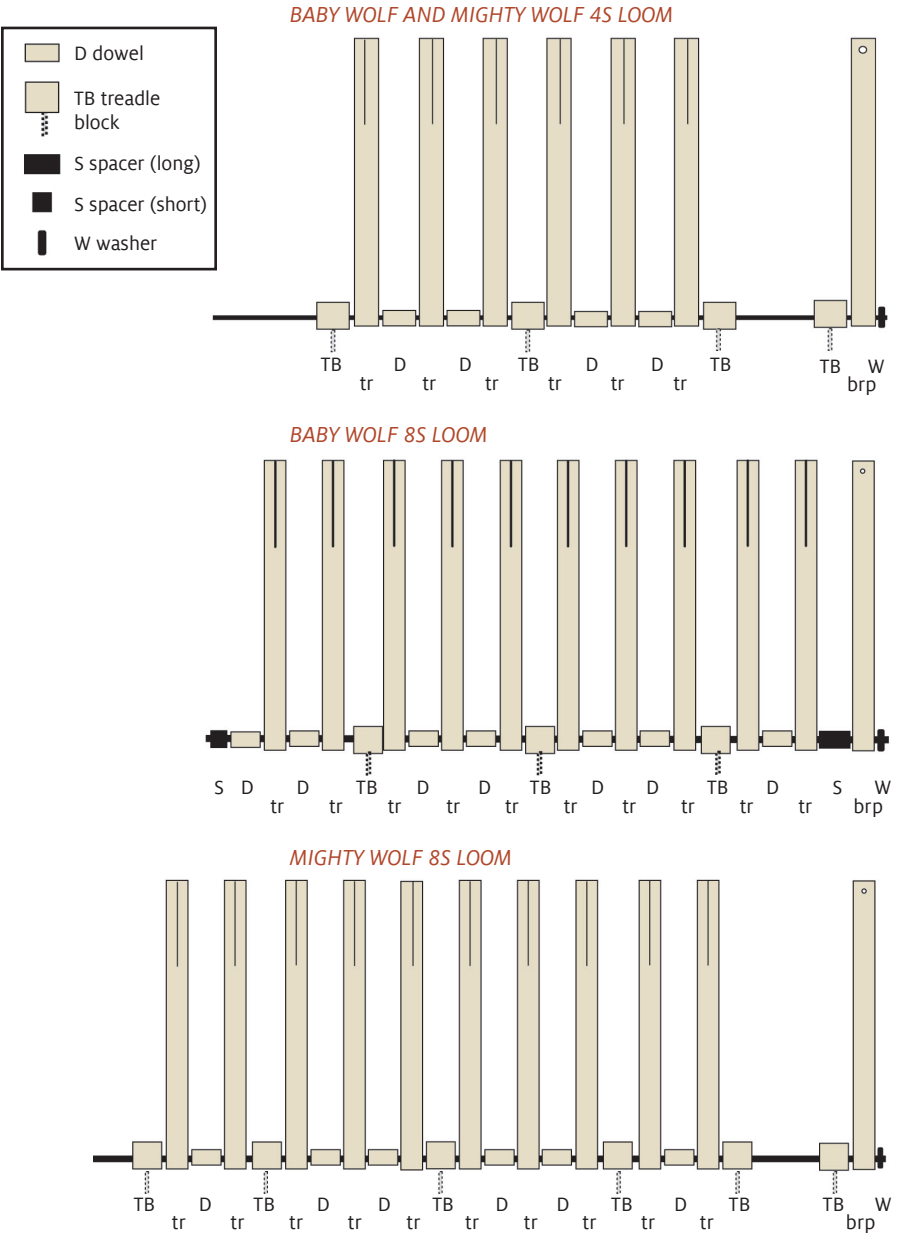

FIGURE 7: REPLACE TREADLES
12. Follow Figure 7 for your loom to install height extender treadles (**tr**) and the height extender brake release pedal (**brp**), with the parts saved from step 11, onto the metal treadle bar. Make sure the